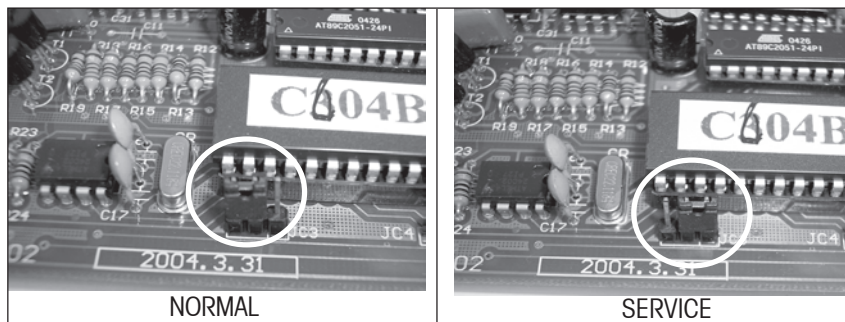

Figure 4-15. Main PC Board Jumper Positions.
12. Refer to Figure 4-15 and move the Main PC Board Jumper from normal to service position.